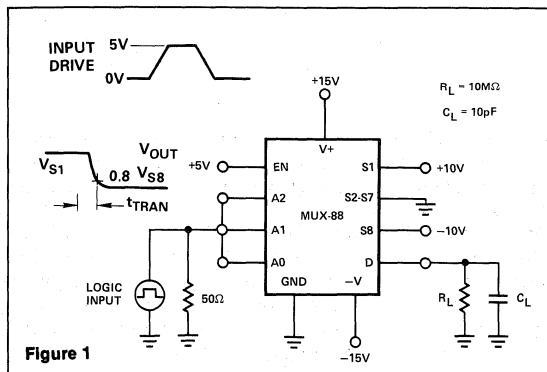

Figure 1
- Sample tested. The measurement conditions of Figure 1 insure worst case transition time.
Voltage = 5V/Div, Time = 1µs/Div, See Transition Time Circuit of Figure 1.
* $R_L = 1M\Omega$, $C_L = 10pF$, $V_1 = -500mV$, $V_{S8} = +500mV$ Voltage = 500mV/Div, Time = 1µs/Div, See Transition Circuit of Figure 1.
* $R_L = 1M\Omega$, $C_L = 500pF$, $V_1 = -500mV$, $V_{S8} = 500mV$ Voltage = 500mV/Div, Time = 1µs/Div, See Transition Time Circuit of Figure 1.
When operating with negative input voltages, the gate-to-channel diode will be turned on if the voltage drop across an ON switch exceeds $-0.6V$. While this condition will cause an error in the output, it will not damage the switch. In lab tests, the multiplexer output load capacitor has increased to $0.01\mu F$ in the Transition Time circuit, Figure 1. With $V_{S1} = -10V$ and $V_{S8} = +10V$, the logic input was driven at a 1kHz rate. The positive-going slew rate was $0.3V/\mu sec$ which is equivalent to a normal I_{DSS} of 3mA. The negative-going slew rate was $0.7V/\mu sec$ which is equivalent to a "reverse" I_{DSS} of 7mA. Note that when switch 1 is first turned ON it has a drop of $-20V$ across its terminals. In spite of that fact, the current is limited to approximately twice its normal I_{DSS} .